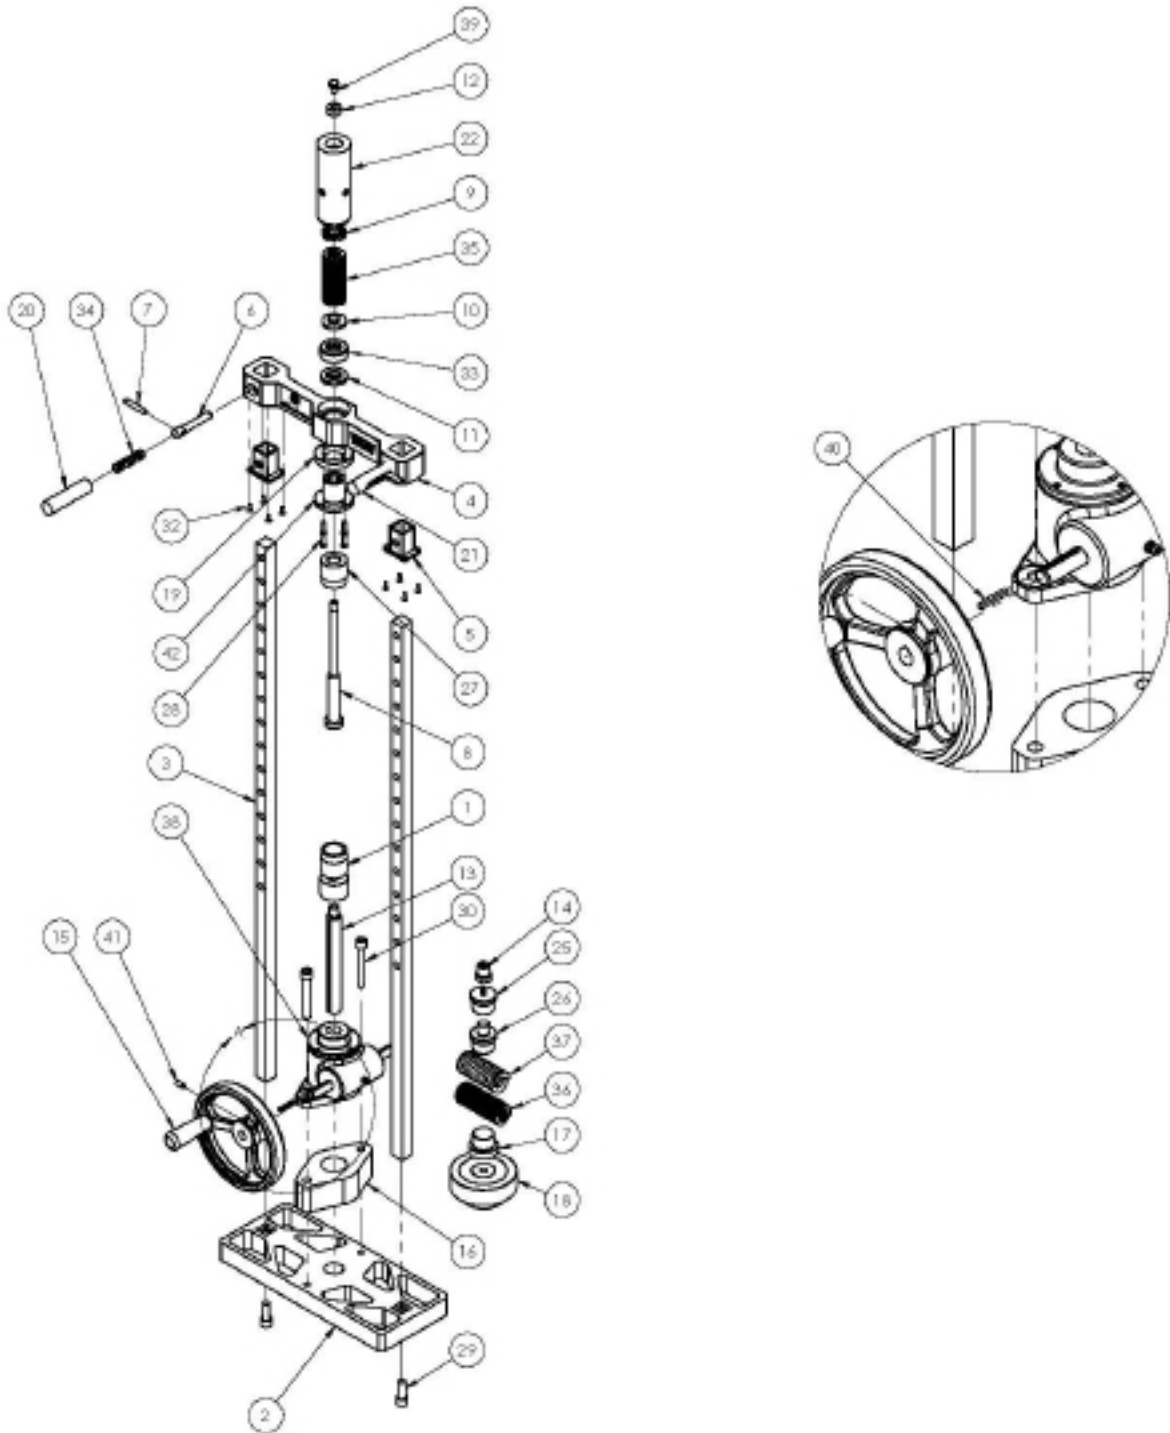

Figure 8: General Assembly of a Portable Calibrating Machine, Model: PCM-2MD-02
- The quick-adjust latches on the stage beam play a critical role in the Portable Calibrating Machine's load-bearing capability. Before starting to apply force, check the latches to ensure that they are completely pushed in and the holding pin is fully engaged. Figure 8 demonstrates how to check the engagement of the stage beam latches
To order parts and accessories for your Portable Calibrating Machine, contact Morehouse Sales team. Figure 8 and Table 2 demonstrate the parts included in a Portable Calibrating Machine Model PCM-2MD-02.